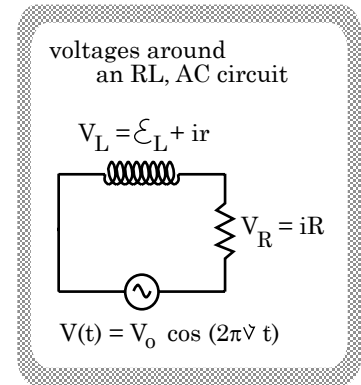

FIGURE 17.28
b.) Writing a Loop Equation for an RL circuit (see Figure 17.28 for the voltages associated with each element), we get: